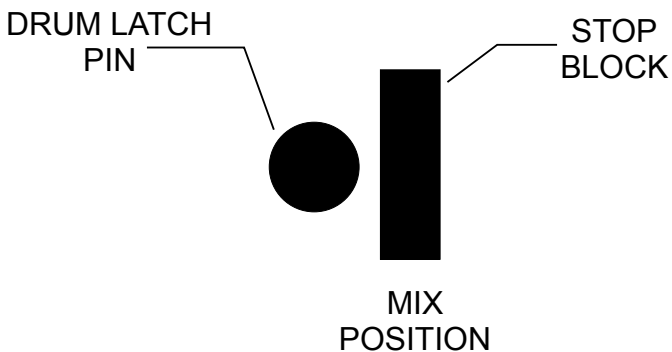

Figure 19. Drum Lock Pin (Left Position)
4. When charging, mixing, or dumping a batch of plaster or mortar the drum lock pin should be placed to the left (when viewing the mixer from the towpole end) of the drum stop block which is welded to the front side of the drum. See Figure 19.